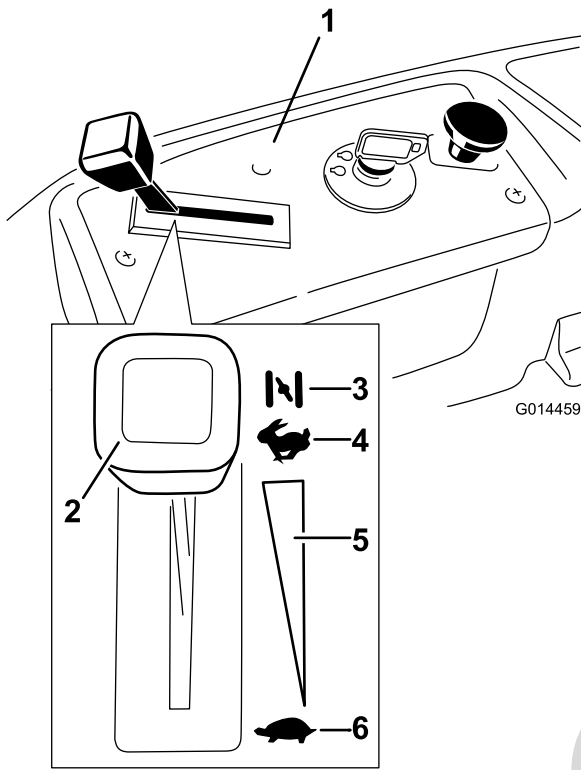

Figure 13
3. Move the throttle lever to Choke before starting a cold engine (Figure 13).
- After the engine starts, move the throttle lever to Fast (Figure 13). If the engine stalls or hesitates, move the throttle lever back to Choke for a few seconds. Repeat this as required.
3. Turn the ignition key to Off (Figure 13) and remove the key.